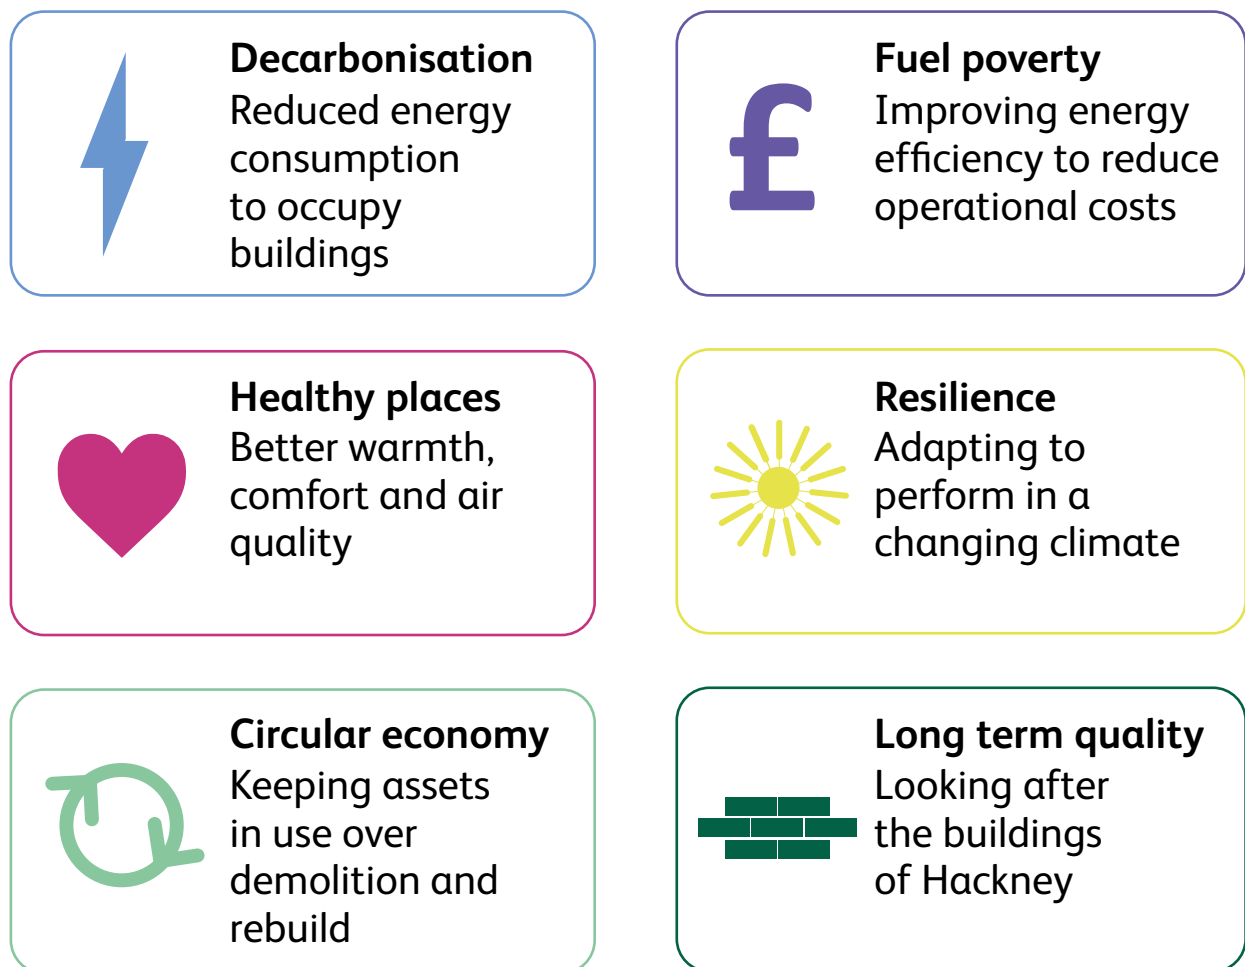

Figure 2.1 – Benefits of Retrofit.
2.2 Retrofit works may also be used to adapt buildings for our changing climate and be more resilient to extreme weather, including temperatures, wind and rainfall. Similarly retrofitting works can be undertaken as part of a change of use, this process is known as adaptive reuse. There are a number of key benefits of retrofitting buildings, which are shown in Figure 2.1 below: